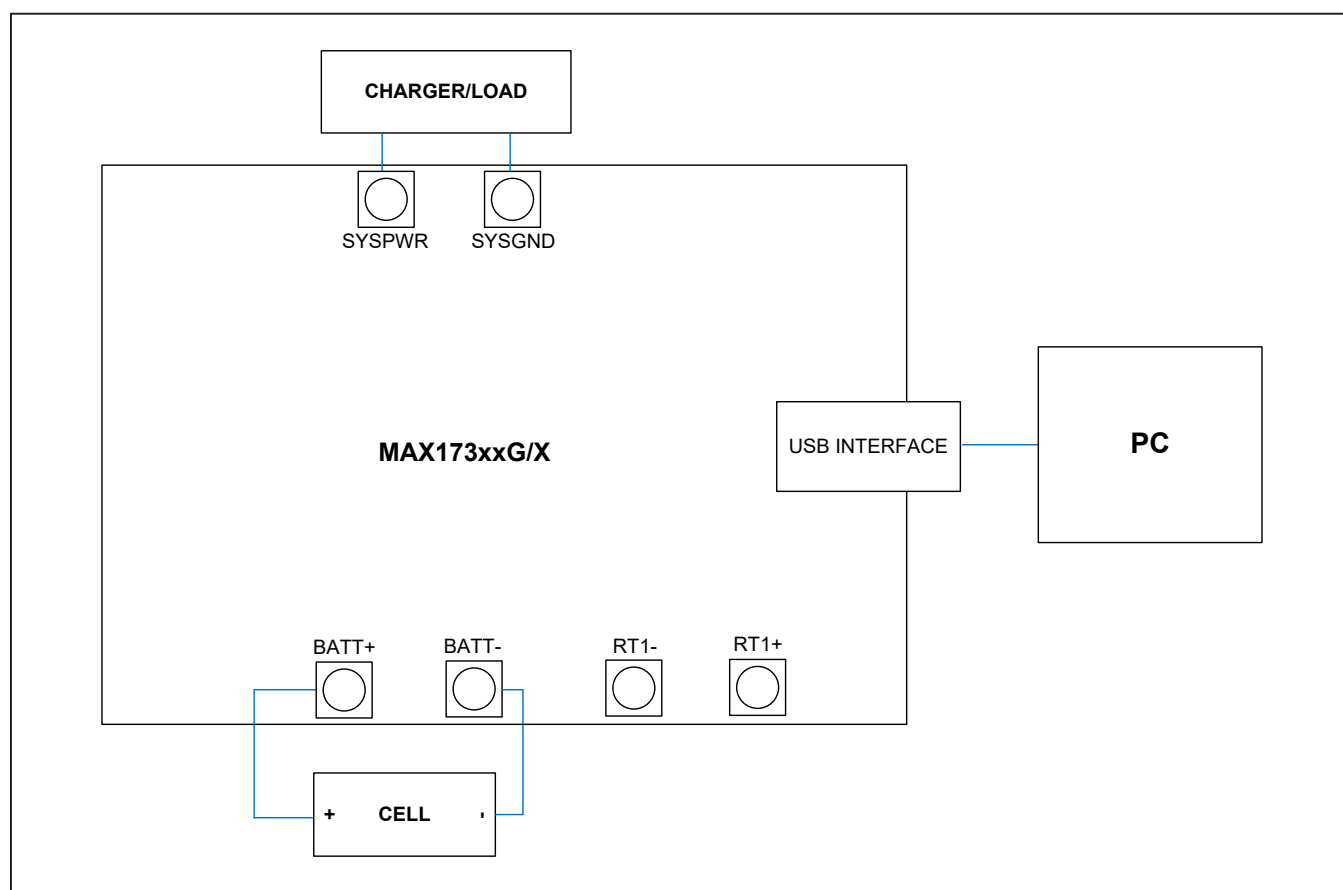

Figure 1. MAX173xx Board Connections
- 4) Make connections to the EV kit board based on cell pack configuration as shown in Figure 1. The load or charger circuit can be connected at this time as well. The cell connects between the BATT+ and BATT- pads and the charger/load connects between the SYSGND and SYSPWR pads.